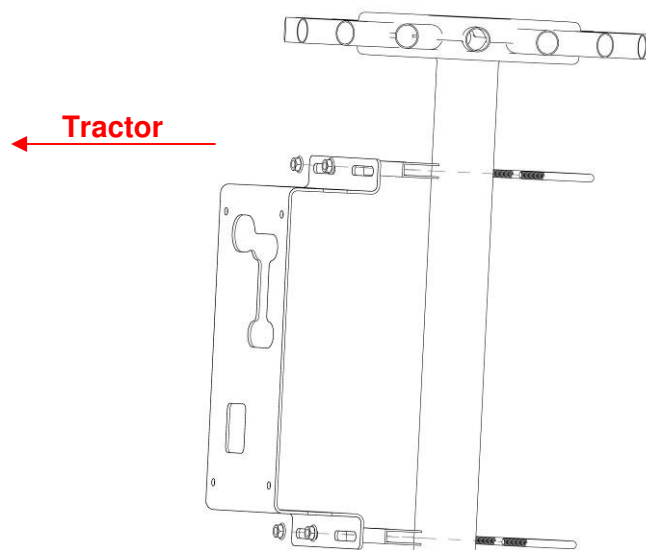

Figure 13: Mounting a ECU bracket to the air seeder tower
3. Place a ECU mounting bracket (351050-000012) so that the ends of the u-bolt are going through the top two holes of the ECU mounting bracket, as shown in the top circle of Figure 13
6. Place another u-bolt around the manifold post and through the bottom holes of the ECU mounting bracket, as shown in the bottom circle of Figure 13